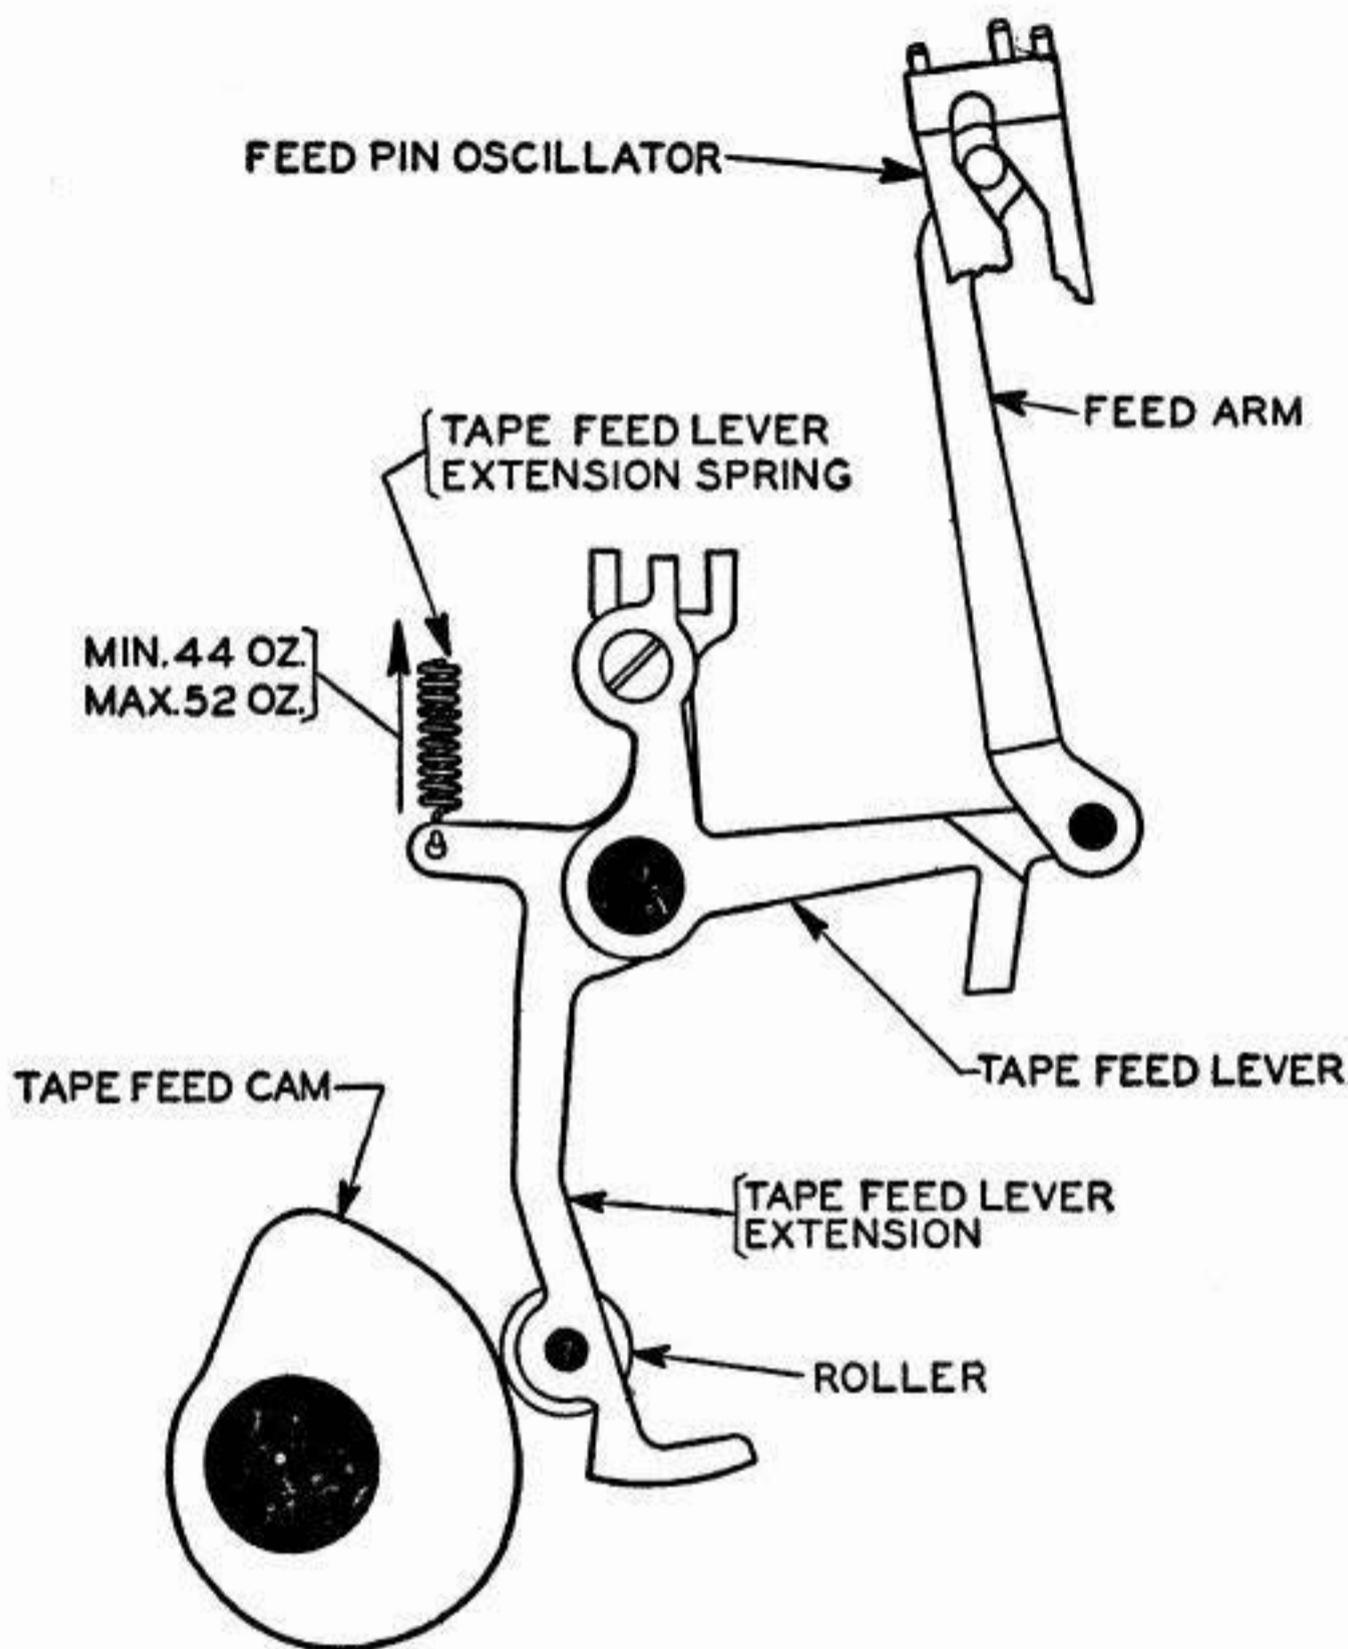

Fig. 2
2.02 Tape-Feed-Lever Extension Spring: It should require Min. 44 oz., Max. 52 oz. to extend the feed-lever extension spring to position length when the tape-feed-lever roller is resting on its cam and the sensing cam is in its stop position. **Fig. 2**